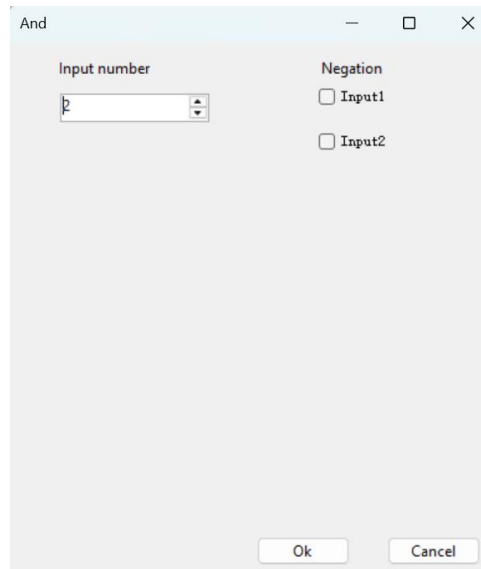

Figure 6.3 AND Block Property Window
- (1) Select the block and right-click to select **[Edit]** Menu.
- (2) In the property window, such as Figure 6.3 below, click the check box **[Input2]**.
- (3) Click **[OK]**. Input IN2 of the function block AND is now marked as inverted (Figure 6.3).